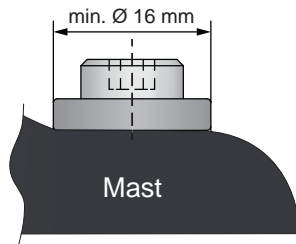

Figure 3.4: Washer
- The bolt contact surface (between bolt and mast) must be at least 16 mm in diameter. Levitaz recommends using washers to prevent wear. See figure 3.4.